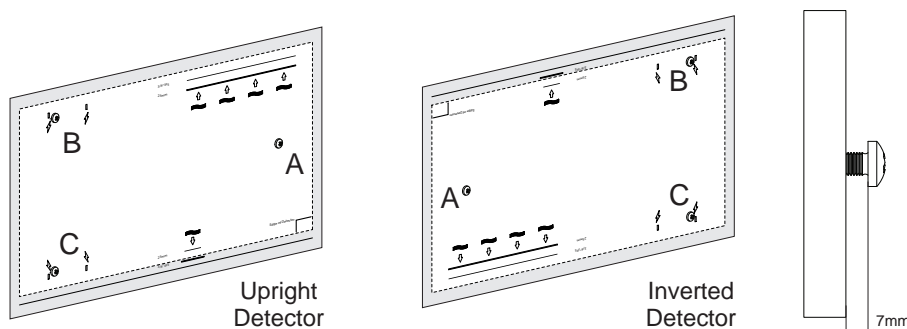

Figure 4-24: Insert mounting screws
3. Insert two M4 button head screws at positions A and B such that the screw head is protruding 7 mm from the wall (Figure 4-24). Drill a pilot hole at position C for later insertion of a screw at Step 12.